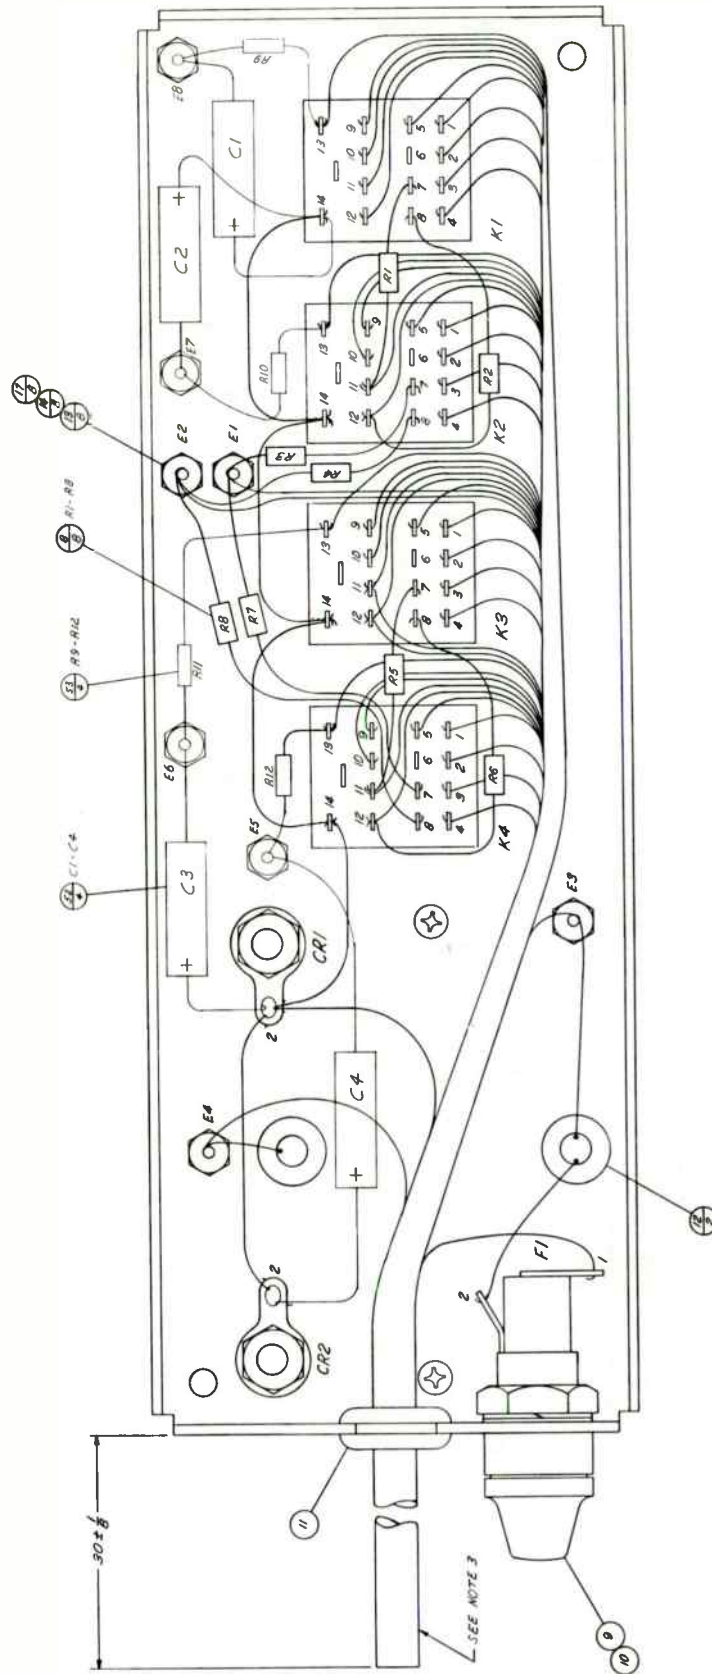

Figure 2. Relay Module, Component Location
5. Connect four 470-ohm, 1/4-watt resistors as shown in figure 2. Use sleeving on each lead.